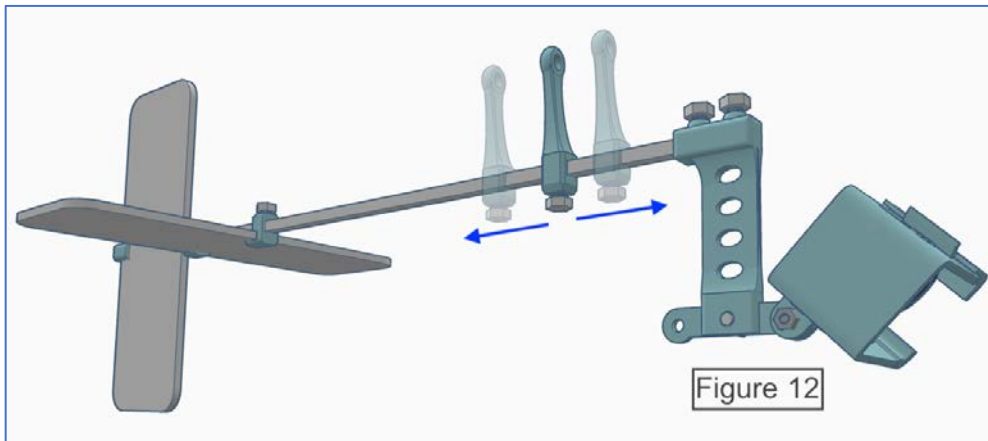

Figure 12: Adjust Aeropod Balance and Pitch
Part 5 – Adjust the Balance and Pitch of the Aeropod (Figure 12)
1. Loosen the retaining bolt on the pylon and adjust the position by sliding it along the boom. (Figure 12)